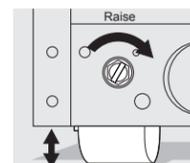

Figure 2
- 2 Use a flat-blade screwdriver or 3/8 inch socket wrench to raise or lower the front rollers (Figure 2).